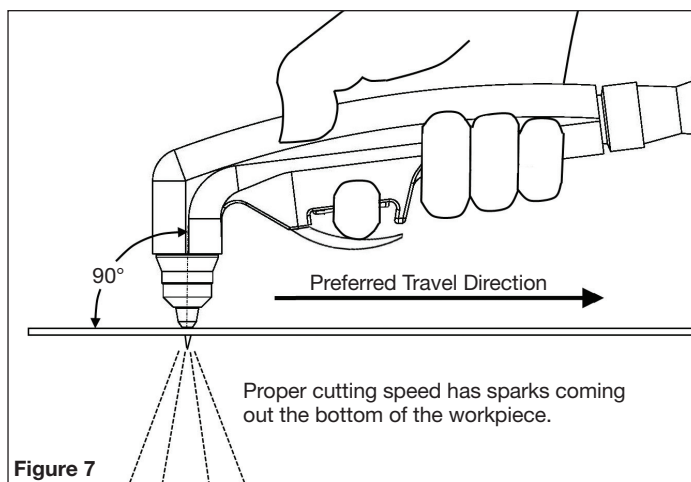

Figure 7
3. Move torch slowly along the intended cutting path. The flame should cleanly cut through the metal. Adjust the hand travel speed faster or slower according to the effectiveness of the cut. Pulling the torch is generally a smoother and more controllable motion than pushing the torch. See Figure 7.
4. The sparks should pass through the workpiece if the sparks reflect back from the surface the hand travel speed is too fast. See Figures 7 and 8.